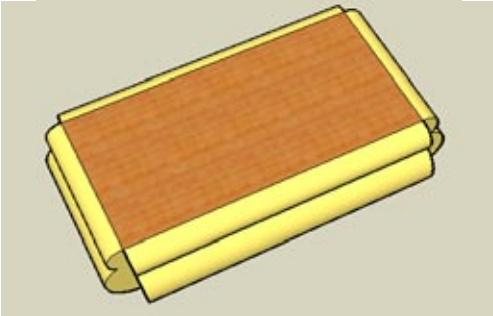

Figure 4-18
5. Repeat steps 2 through 4 for the remaining two edges of the table (Figure 4-18).